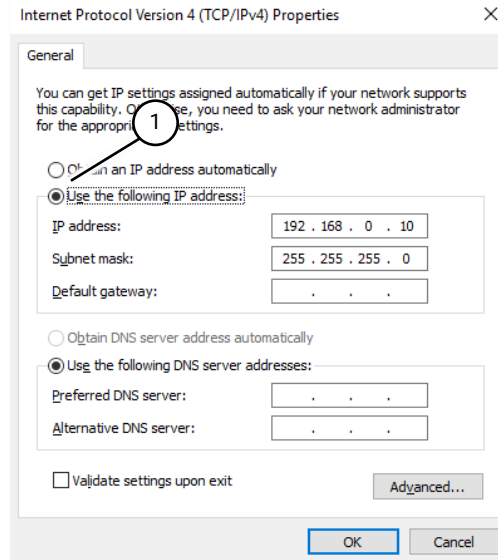

Fig 43 IP settings
5. Select 'Use the following IP address' (Fig 43 (1)). Enter the following: